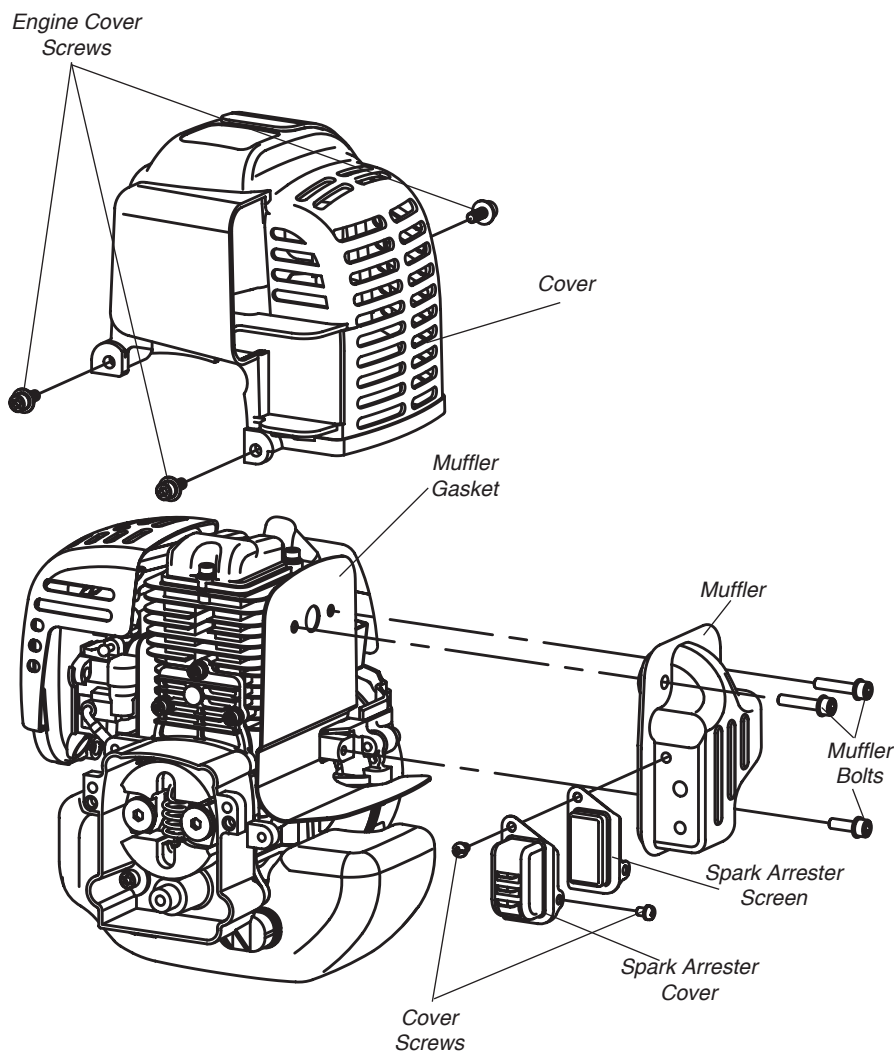

Figure 26
1. With a 4 mm hex wrench remove the 3 engine cover screws and the engine cover. See Figure 26.
2. With a 4 mm hex wrench remove the 3 muffler bolts and the muffler. See Figure 26.
3. With a small flat bladed screwdriver remove the 2 screws holding the spark arrester screen and cover to the muffler. See Figure 26.